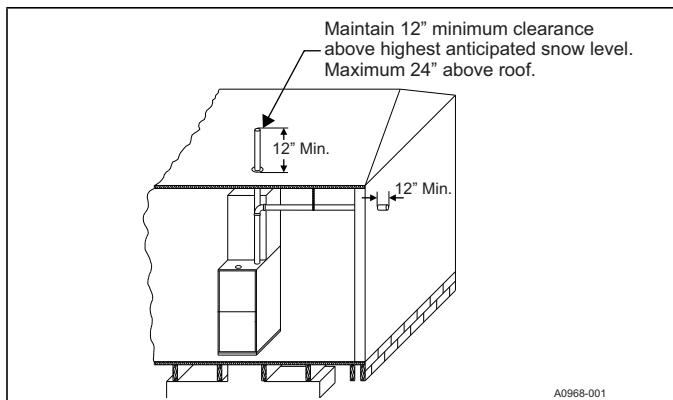
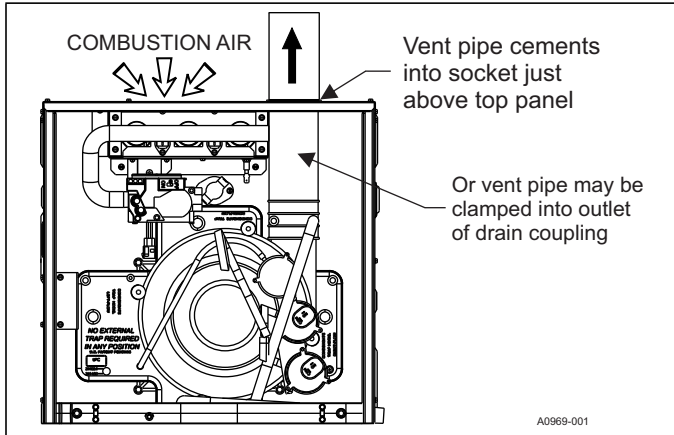

FIGURE 29: Termination Configuration - 1 Pipe
FIGURE 36: Combustion Airflow Path Through The Furnace Casing
The combustion air side of the single pipe configuration shown in Figure 36 is referred to in these instructions as ambient combustion air supply. Follow the instructions for ambient combustion air installations, paying particular attention to the section on air source from inside the building. The vent for a single pipe system must be installed as specified in the venting section of these instructions with both vents terminating as shown in Figure 29. Each furnace must have a separate vent pipe. Under NO circumstances can the two vent pipes be tied together.
2. **AMBIENT COMBUSTION AIR:** Combustion air is supplied from the area surrounding the furnace through openings in the furnace casing. The combustion air and the vent pipes are not terminated in the same atmospheric zone. Refer to Figure 29 for vent terminations. Refer to "Ambient Combustion Air Supply" for proper installation. Refer to Figures 36 and 37.